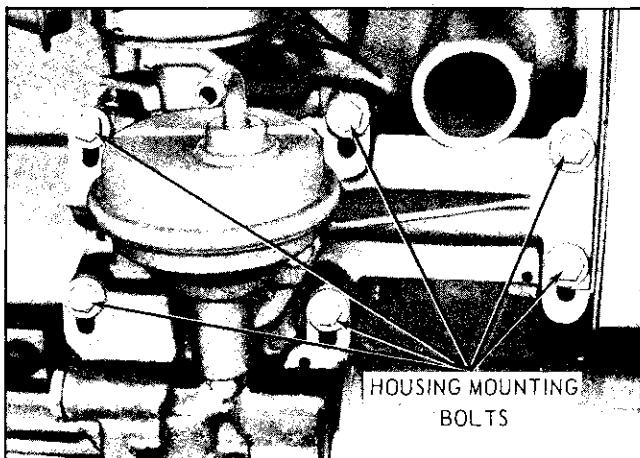

Fig. 6-11 Accessory Drive Housing Mounting Bolts
5. With J 22232-1 installed as above, adjust accessory drive housing (Fig. 6-11) up or down as required to obtain a tension adjustment indicator centered in the green range with drive housing mounting bolts torqued to 15 lb. ft.
3. Loosen six accessory drive to engine block mounting bolts (Fig. 6-11).